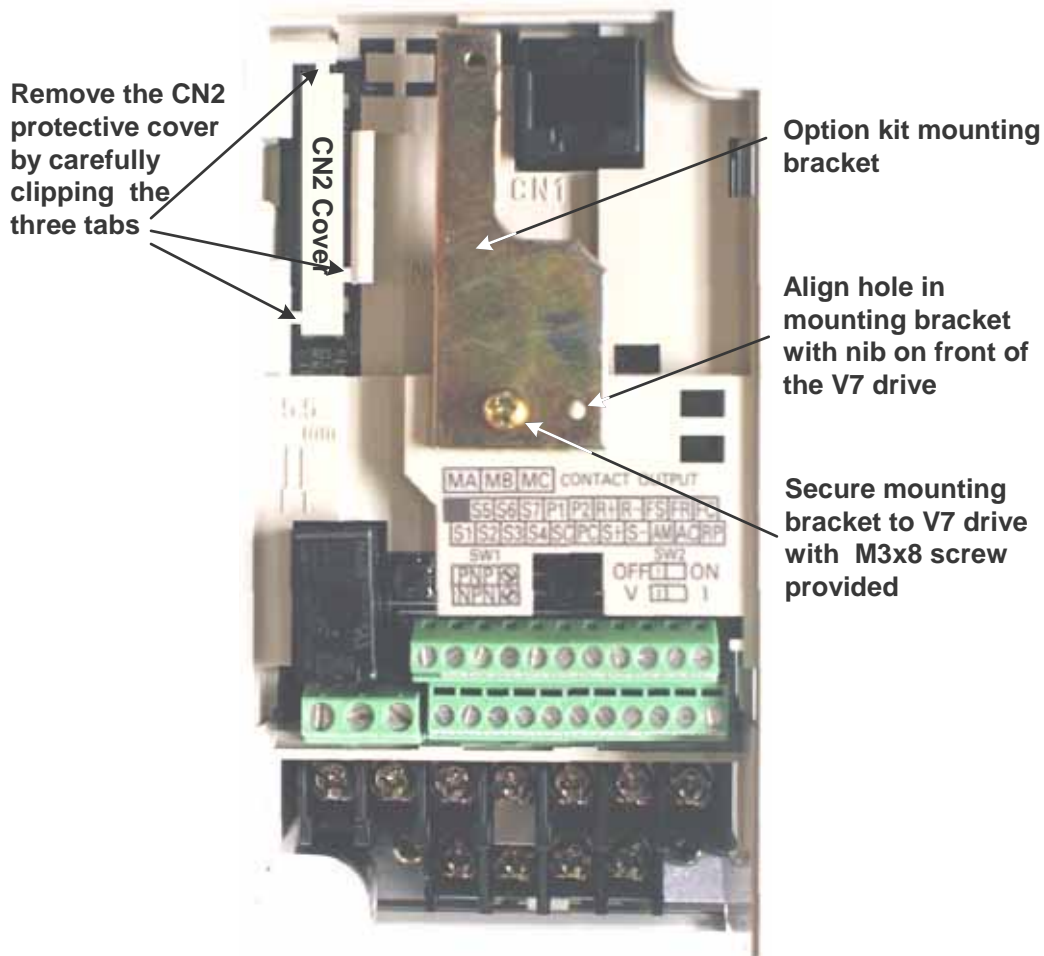

Figure 1.2 – Remove CN2 Cover and Install Option Mounting Bracket
- 4.2:** Remove the plastic protective cover from over the CN2 connector. Refer to **Figure 1.2 –Remove CN2 Cover and Install Option Mounting Bracket**.
- 4.3:** Install the option mounting bracket provided on to the drive. Refer to **Figure 1.2 – Remove CN2 Cover and Install Option Mounting Bracket**.